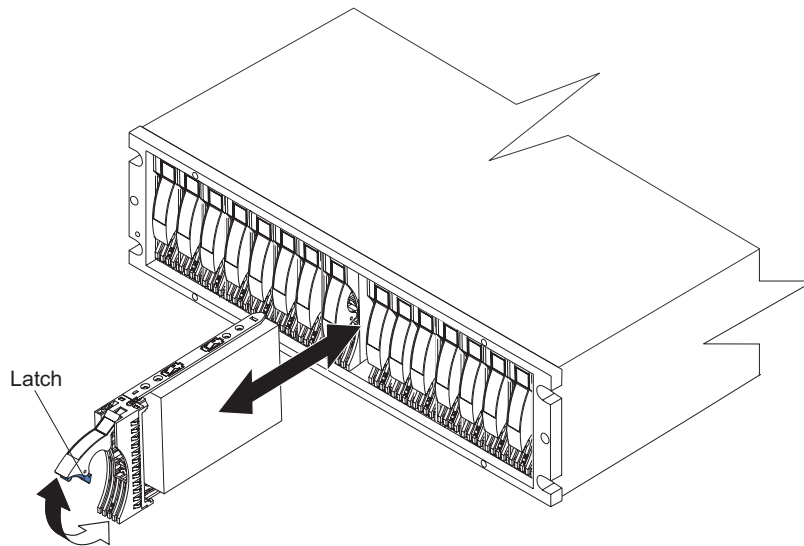

Figure 22. Replacing an E-DDM
1. Lift up on the handle and gently push the E-DDM CRU into the empty bay until the hinge of the tray handle latches beneath the storage subsystem bezel, as shown in Figure 22.